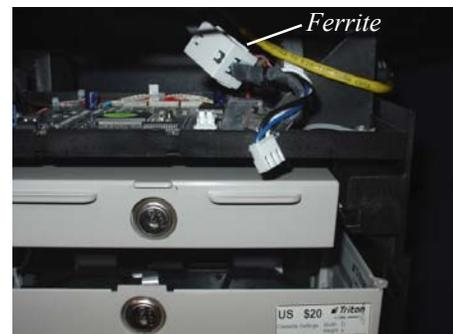

Figure 5. Power and Comm cable disconnected.
3. Disconnect the power and communication (Comms) cables from the dispenser (Figure 5). Carefully cut any Ty wraps that are securing the cables to the dispenser. Open the ferrite component that surrounds the 2 cables and set aside.